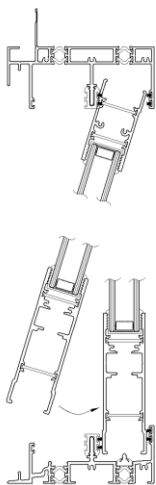

Figure 8a
- Install the sliding panel into the interior frame track. (If installing an OXXO door, install both sliding panels on the interior track. If installing an OXX or XXO door, install the locking panel to the interior track and the additional rolling panel in the center track. Shown in figures 8a and 8b) Use a putty knife if necessary to lift rollers over the center weather strip track.